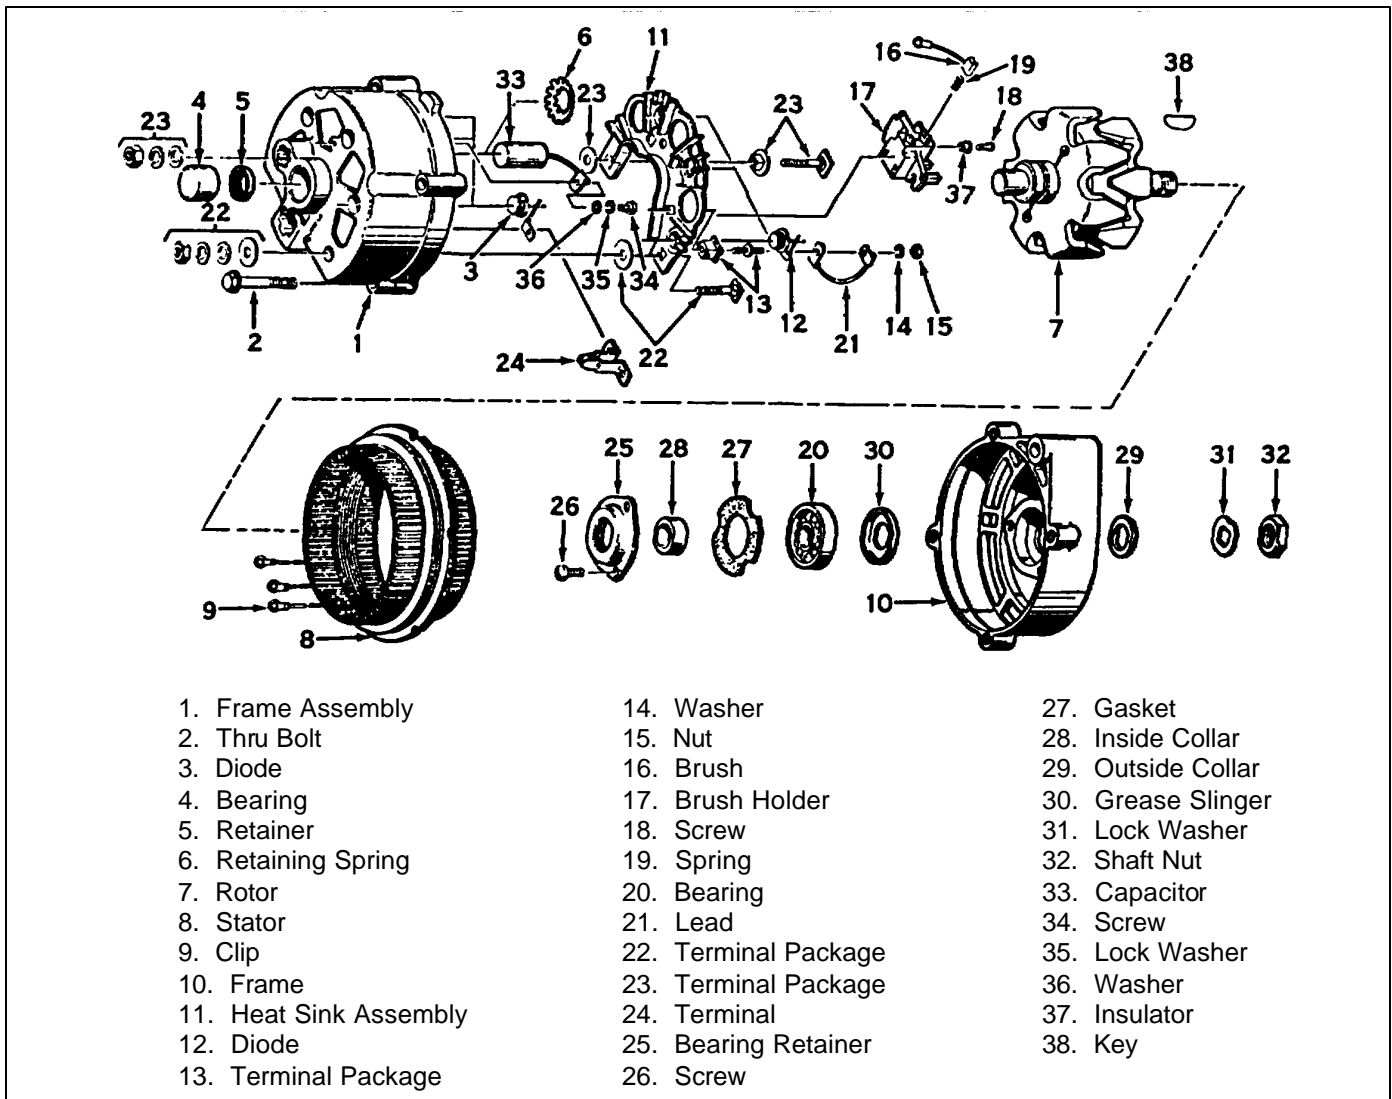

Figure 4-20.1 Alternator, Exploded View
a. To disassemble, remove four thru bolts (2, figure 4-20.1). securing frame assembly (1) to frame (10). Match mark frames and use a screwdriver at stator slot to pry apart two frames. Place piece of tape over slip ring end frame bearing (4) to prevent entry of dirt or foreign matter. Also tape shaft of rotor (7) to slip ring end.
b. Place rotor (7) in a vise and tighten only enough to permit removal of nut (32) and lock washer (31). Remove nut, lock washer, pulley, key (38), fan outside collar (29), and rotor.
c. Remove three stator lead attaching nuts and stator (8) from frame.
d. Remove three screws (26) that secure bearing retainer (25) to drive frame (10); remove inside collar (28) and gasket (27). Press bearing (20) from drive frame; remove grease slinger (30).